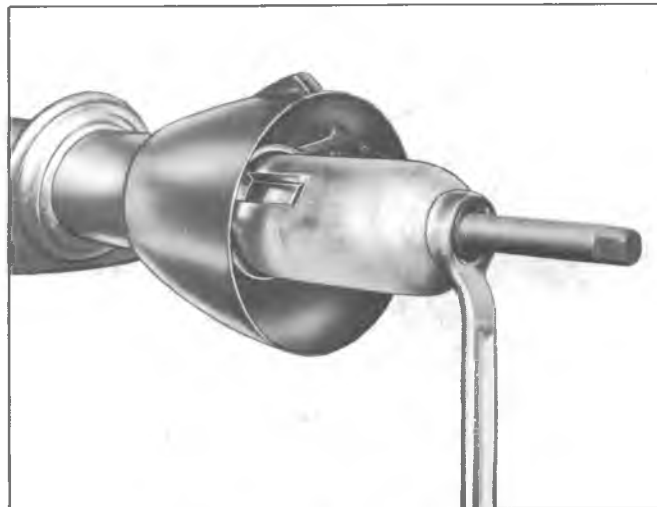

Fig. 30—Installing Shift Pin Tube
5. Carefully install the shift tube into the lower end of the column (make sure the foam seal is at the lower end of the shift tube). Align the keyway in the tube with the key in the shift lever housing and complete installation of the shift tube using Tool J-22549 (fig. 30). The shift lever housing key must bottom in the shift tube slot to be fully installed. Remove Tool J-22549 from the column. Lubricate and push foam seal in flush with column housing.